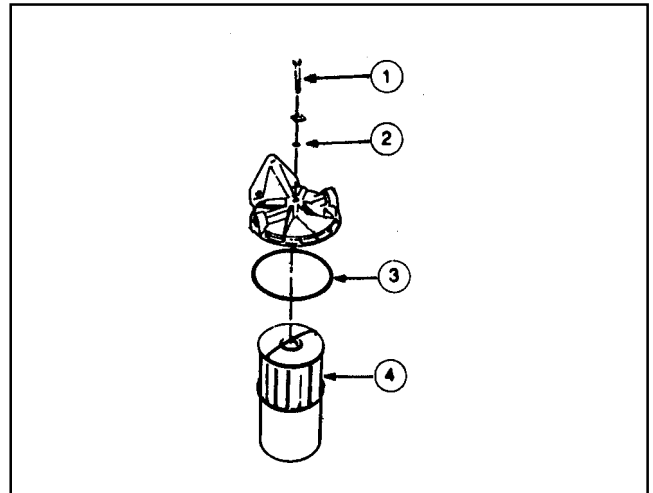

Fig. 6-7. Changing fuel filter element.
1. Remove the wing nut (1 Fig. 6-7), lockwasher (2) and plain washer (3).